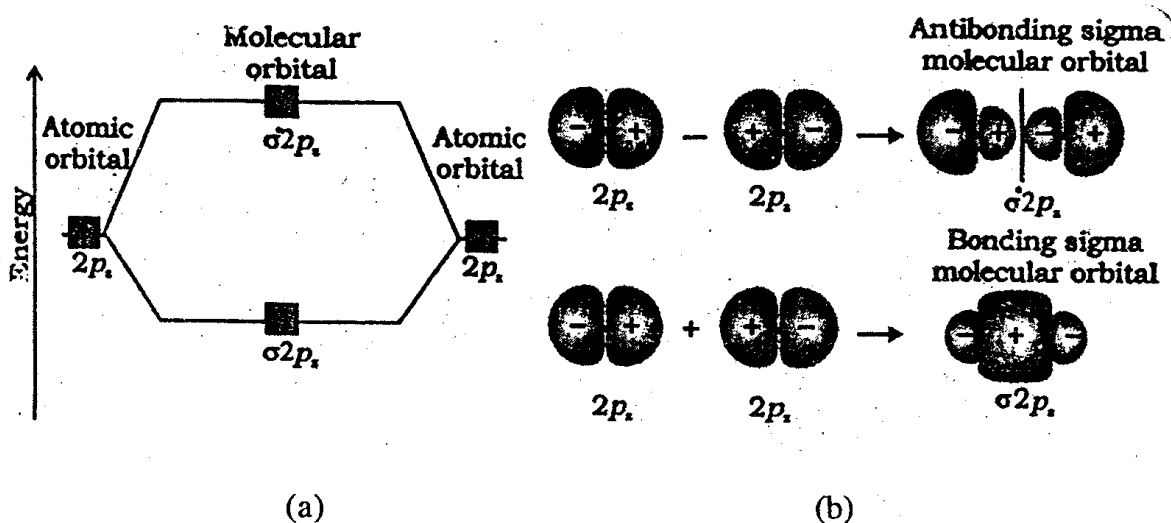

Fig. 5.12 : Overlapping of two $2p_z$ orbitals to give molecular orbitals
As mentioned above, in LCAO, the atomic orbitals of **comparable energies** and of **suitable symmetry** combine to give molecular orbitals. A suitable symmetry means that the combining orbitals should have same symmetry about the molecular axis. It is normally assumed that the bond formation takes place along the z-direction. You have learnt in the first unit that the three p orbitals are directed towards three mutually perpendicular direction namely the x, y and z directions. Therefore the Pz orbitals of the two atoms would combine along the bond axis to give two molecular orbitals as shown below fig. 5.12 Since these molecular orbitals are symmetric around the molecular axis these are called σ orbitals. The designation of the orbitals would be σ_{2p_z} and $\sigma_{2p_z}^*$.
2. Calculate the bond orders for Li_2 and Be_2 molecules using the molecular orbital diagrams given in Fig. 5.12